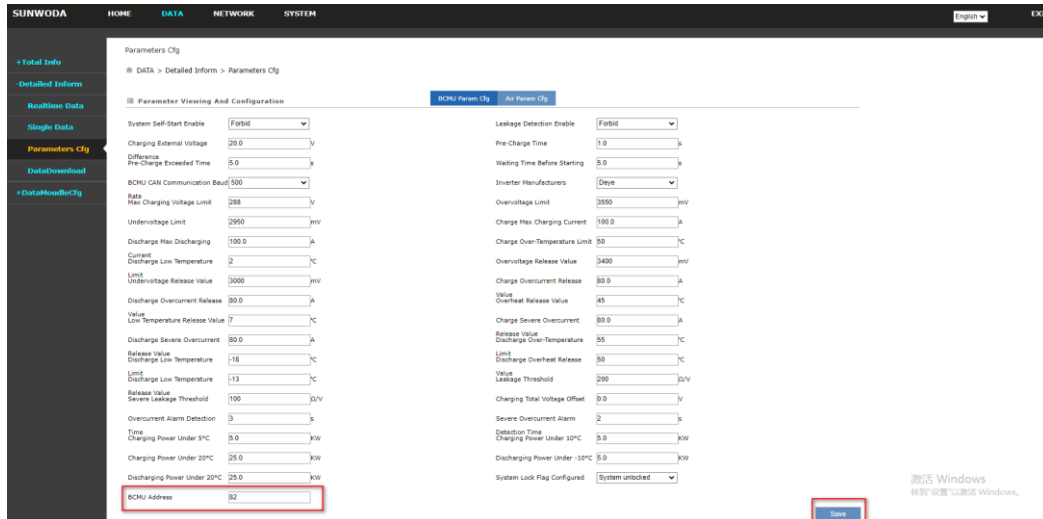

Figure 4.15
(11) Set the battery cabinet address to "82" on the following screen and click Set (Fig.4.15).